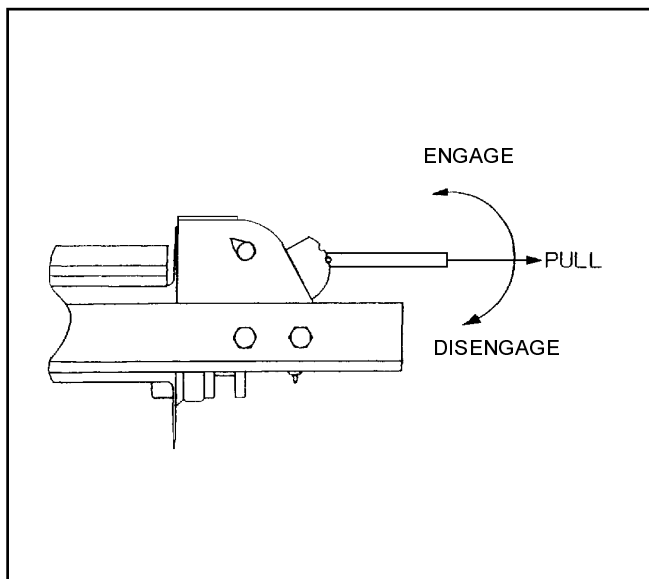

Figure 3-6 12,000# Winch Clutch
**3-13.2** The **WINCH CLUTCH HANDLE** (See **Figures 3-6 and 3-7**) is located on the right or curb-side end of the winch assembly. The function of the Winch clutch handle is to engage or disengage the winch, allowing it to respond to the Winch Hydraulic lever.
a. The **12,000 lb. WINCH CLUTCH HANDLE** has two positions: (See **Figure 3-6**)